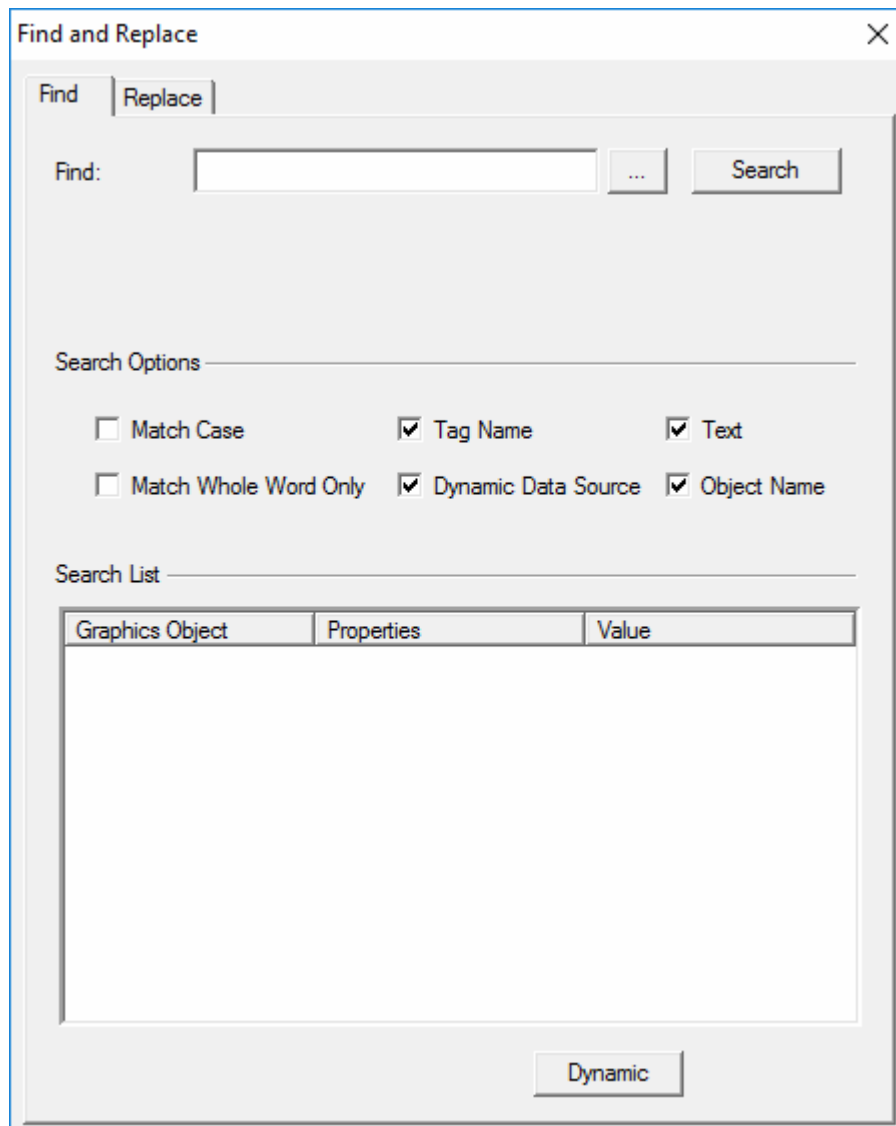

Figure 3-13 Dialog box “Find”
- **Find:** Find the Graphics Object in graphics, as shown in Figure 3-13.